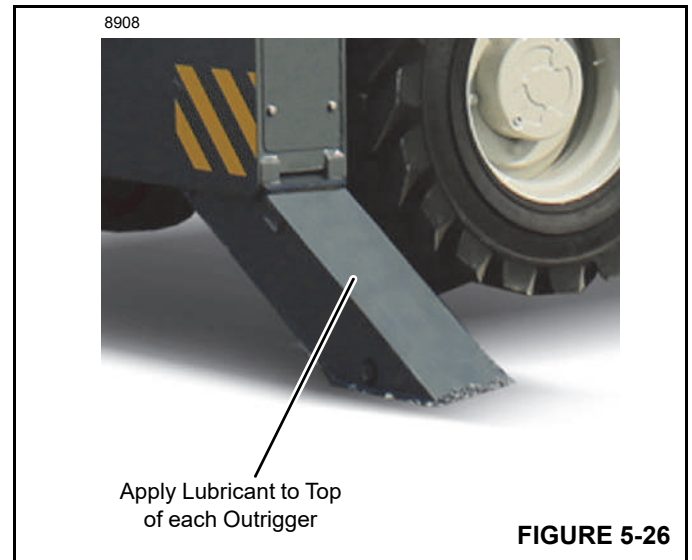

FIGURE 5-26
3. Apply Lithium Based, EP2 grease, or equivalent to the areas shown in Figure 5-26. Do not over lubricate. Raise and lower the outriggers several times to spread the grease.